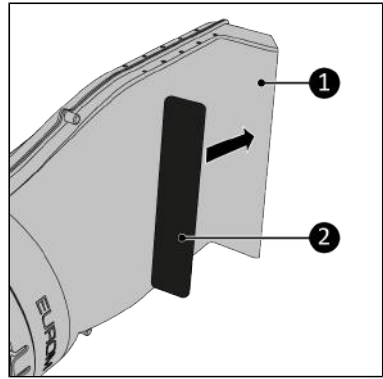

Figure 56.
5. Stick the 40 x 220 anti-slip foam (Figure 56, pos. 2) on inside of the Way-out (Figure 56, pos. 1).